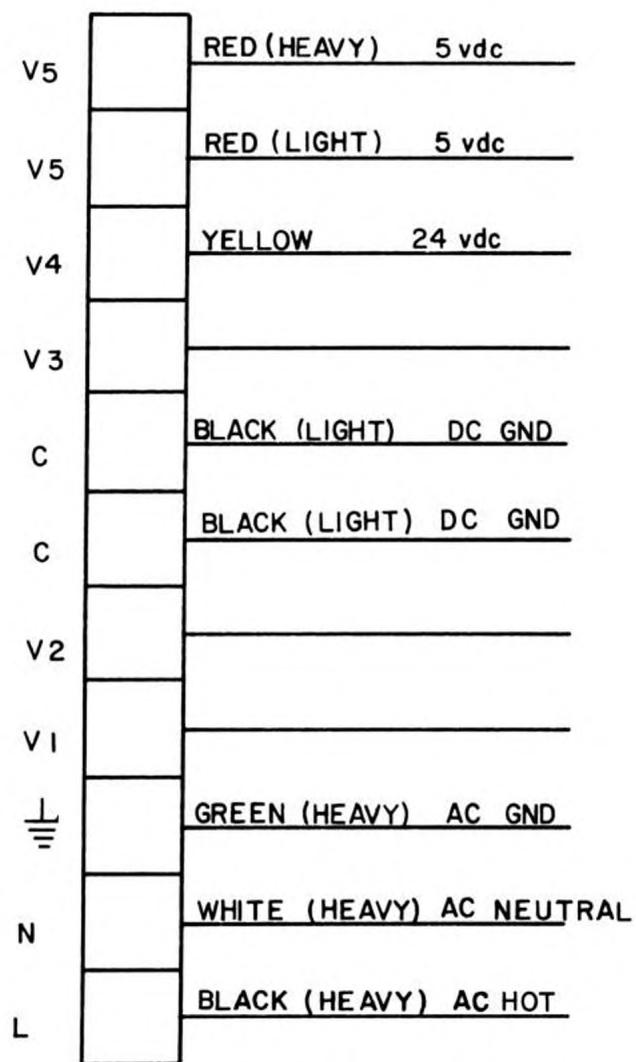

FIG 2 NEW PSU WIRING
**PROCEDURE:** Refer to Figure 1 for the early version power supply (closed case) wiring diagram. Refer to Figure 2 for the later version power supply (open case) wiring diagram.